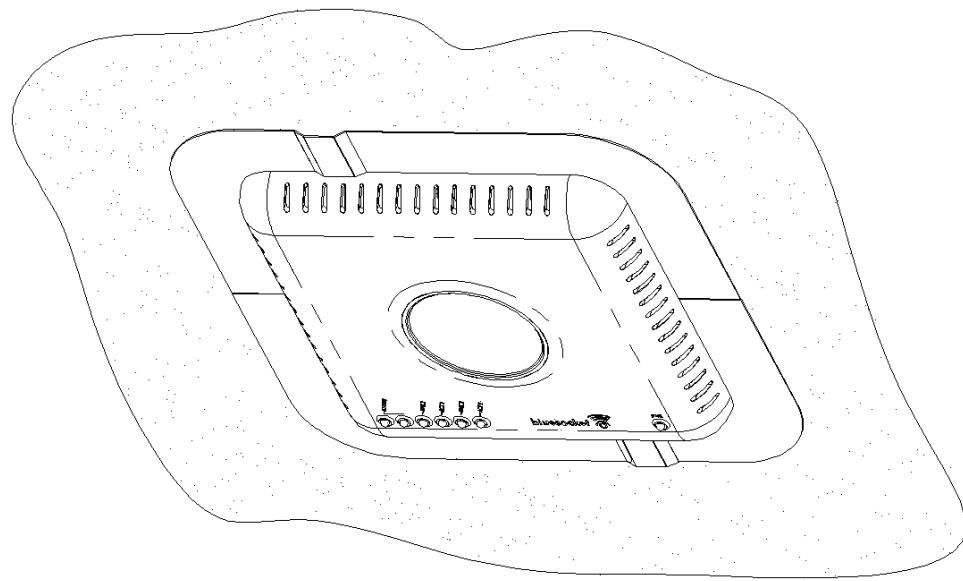

**Figure 9: Side Mounting Bracket Installation**
4. Turn BSAP-1700 unit over and place ceiling tile over the unit as shown in Figure 9. The Trim Plates will aide in tiles correct position. Next attach the Side Mounting Brackets to the Rear Mounting Plate using the 6-32 screws with the external tooth washers attached.